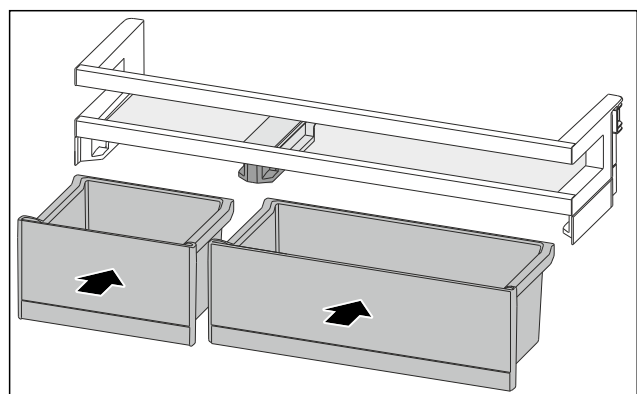

Fig. 81
- ▶ Insert the VarioBoxes in reverse order. (see Fig. 81)